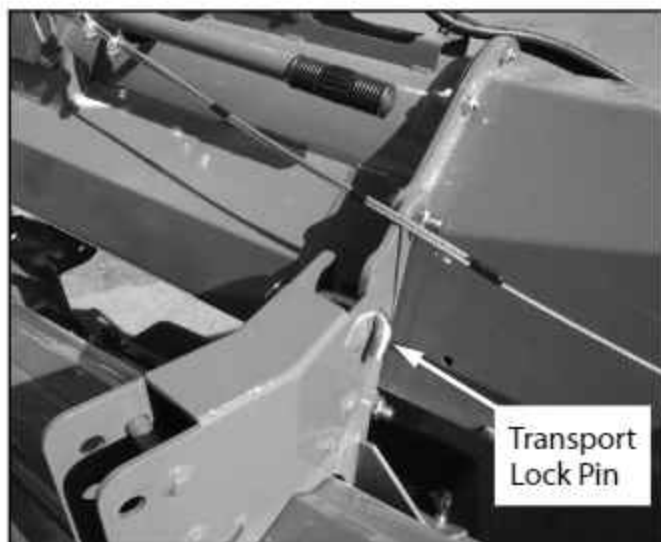

FIG. 4-12. Pinned In Transport Position
- Lift the swing conveyor with the winch until the swing conveyor is high enough to attach it to the mount on the main conveyor as shown in Fig. 4-12.